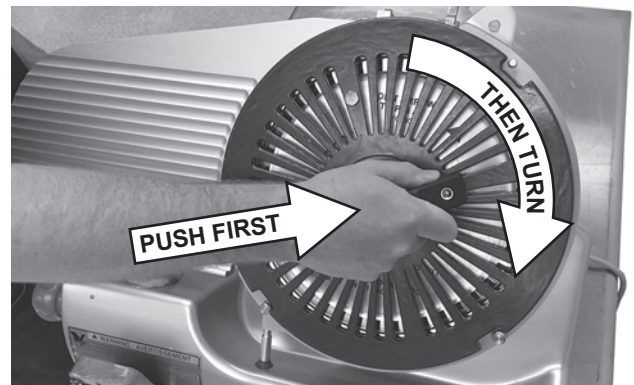

Fig. 22
- Push the Handle firmly (Fig. 22), all the way into the Hub to engage the pins. Then, turn the Handle clockwise until it stops. Some resistance may be experienced when turning.